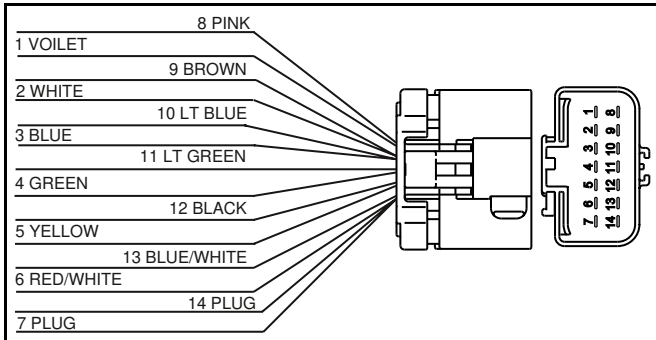

Figure 7
8. Review Figure 7 to make sure the wires are in the correct pin location. Then re-install the secondary lock for the Gray 14 pin connector and place the wires back inside the loom.